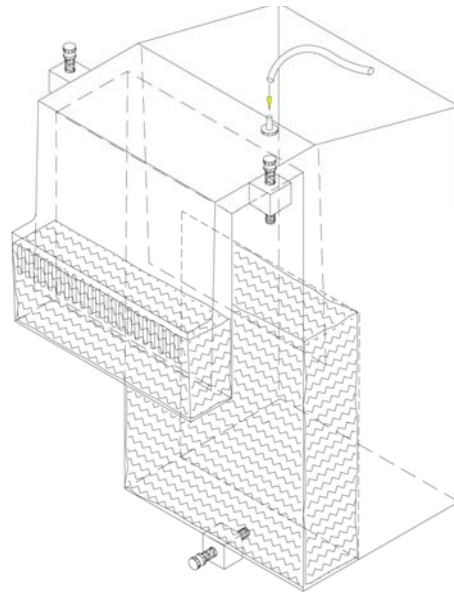

Fig. 2
7. Using a container of water from your aquarium, fill the narrow chamber in the back of the overflow to the top.(FIG 2) To start and maintain the siphon overflow, draw the air out through the nipple on top of the overflow by one of the following methods: